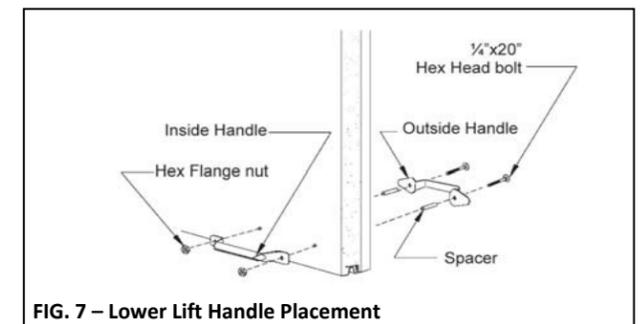

FIG. 7 – Lower Lift Handle Placement
Step 5: Attach the black ornamental handle (outside) and the steel roll grip handle (inside) to the door using two 1/4" black painted hex head bolts, and two 1/4" hex nuts (See Fig. 7).
Step 6: Take the two vertical ornamental handles and position on the 2nd section. Using the handles as a template, mark the holes to be drilled. With the sections stacked, the lower hole on each vertical handle must lie between 20" and 30" vertically from the holes on the bottom handle. The holes on each vertical handle should be centered 5-1/2" horizontally from each other. The holes on both vertical handles should line exactly with the holes on the bottom horizontal handle. No hole may be closer than 2" to the top or bottom of the section (See Fig. 7).